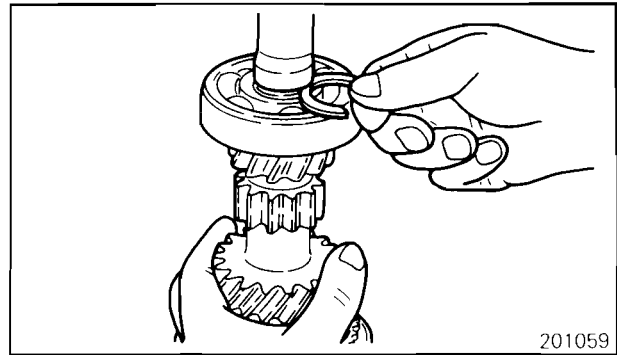

Fig. 41—Input shaft snap ring installation (F5M31)
(11) Install input shaft bearing snap ring, refer Fig. 41, (F5M31 only).